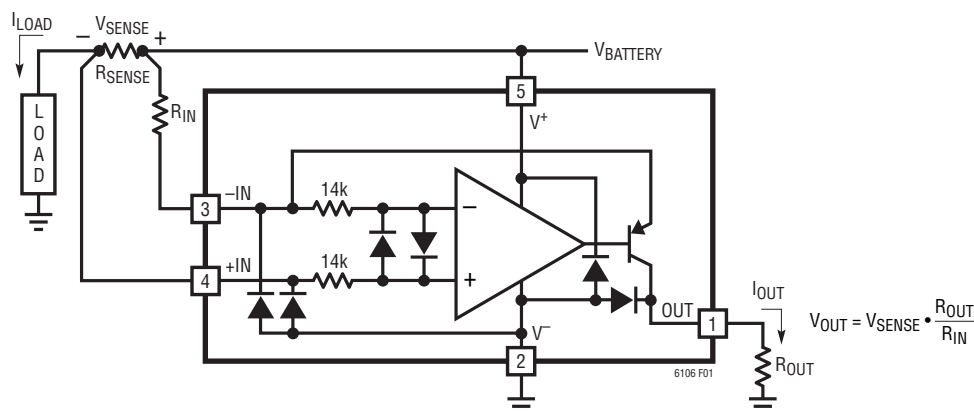

Figure 1. LT6106 Block Diagram and Typical Connection
**Note 6:**  $V_{\text{SENSE}^+}$  is the voltage at the high side of the sense resistor,  $R_{\text{SENSE}}$ . See Figure 1.
The LT6106 high side current sense amplifier (Figure 1) provides accurate monitoring of current through a user-selected sense resistor. The sense voltage is amplified by a user-selected gain and level shifted from the positive power supply to a ground-referred output. The output signal is analog and may be used as is, or processed with an output filter.